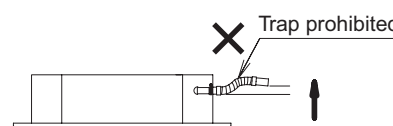

Fig. 2-50
- Do not make a trap in the middle of the supplied drain hose. Doing so will cause abnormal sound. (Fig. 2-50)